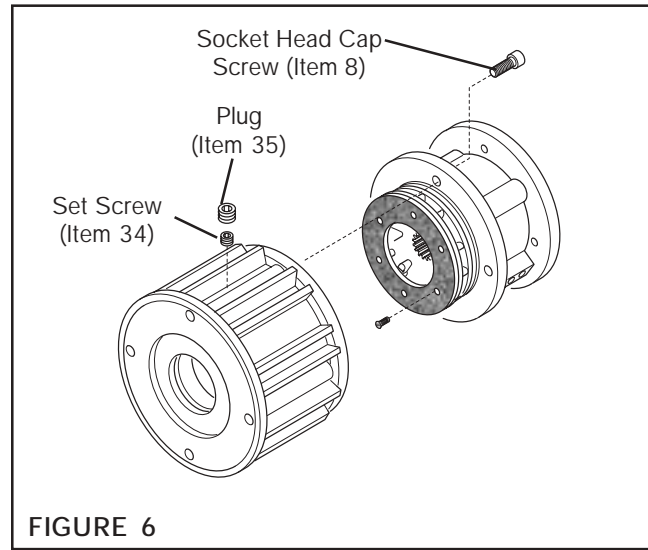

FIGURE 6
NOTE: If an Input Unit is installed on the FMCBES, it must be removed before servicing the FMCBES. Remove the Plug (Item 35) and loosen the Set Screw (Item 34) to release the FMCBES from the Input Unit shaft (See Figure 6).
1. Remove the four Socket Head Cap Screws (Item 8) and separate the two halves of the FMCBES (See Figure 6).
9. Apply a drop of Loctite^o 242 to the threads of the Socket Head Cap Screws (Item 8) (See Figure 6).